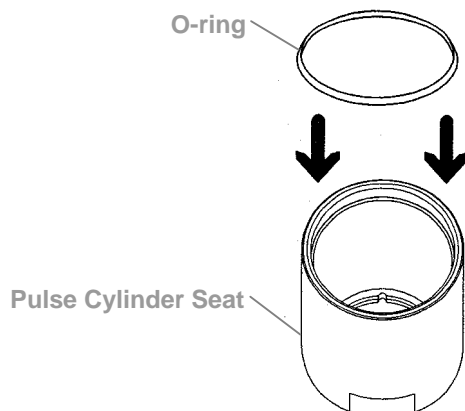

Fig. 287
(4) Pulse Cylinder Seat and Lock Nut of Pulse Cylinder Assembly
- ① Place the o-ring inside the bottom of the pulse cylinder seat, then combine the pulse cylinder seat with the assembled pulse cylinder unit. (Fig. 287, Fig. 288)